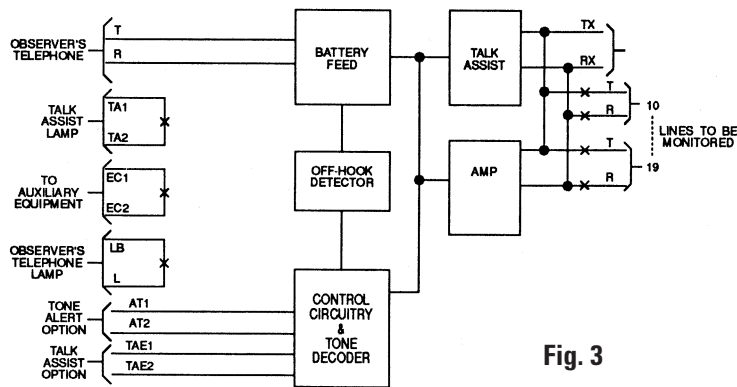

Fig. 3
4.05 When a lamp is used at the observer's telephone to indicate seizure of a line or station for monitoring, connect the station lamp lead to an L terminal of the connecting block, and lamp supply to the LB terminal. If necessary, derive lamp return ground from the common power supply ground. Refer to Figure 3.